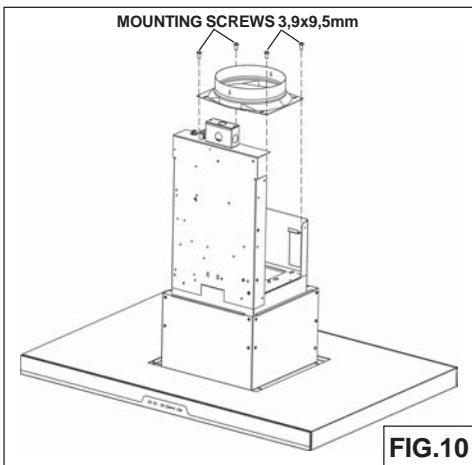

FIG.10
3. Fix the damper kit onto the hood using 4 screws (3.9x9.5mm) located in the Damper Package (Fig.10).